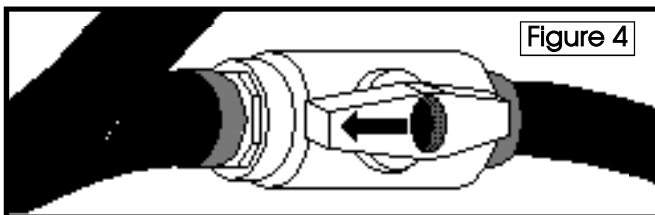

Figure 4
3. Use the solution tank Drain Valve (*Pg.13, Item #49*, located under the Solution Tank, beside the Agitator. This grey valve drains the solution tank when the arrow on the lever points to the drain hose (turned clockwise). Drain the rinse water into a pail or 5 gallon bucket. Remember to close the Drain Valve (turned counterclockwise) before filling the Solution Tank with water and chemicals. See *Figure 4*. Note: to drain, agitation pump must operate. This will also clean the agitation pump.